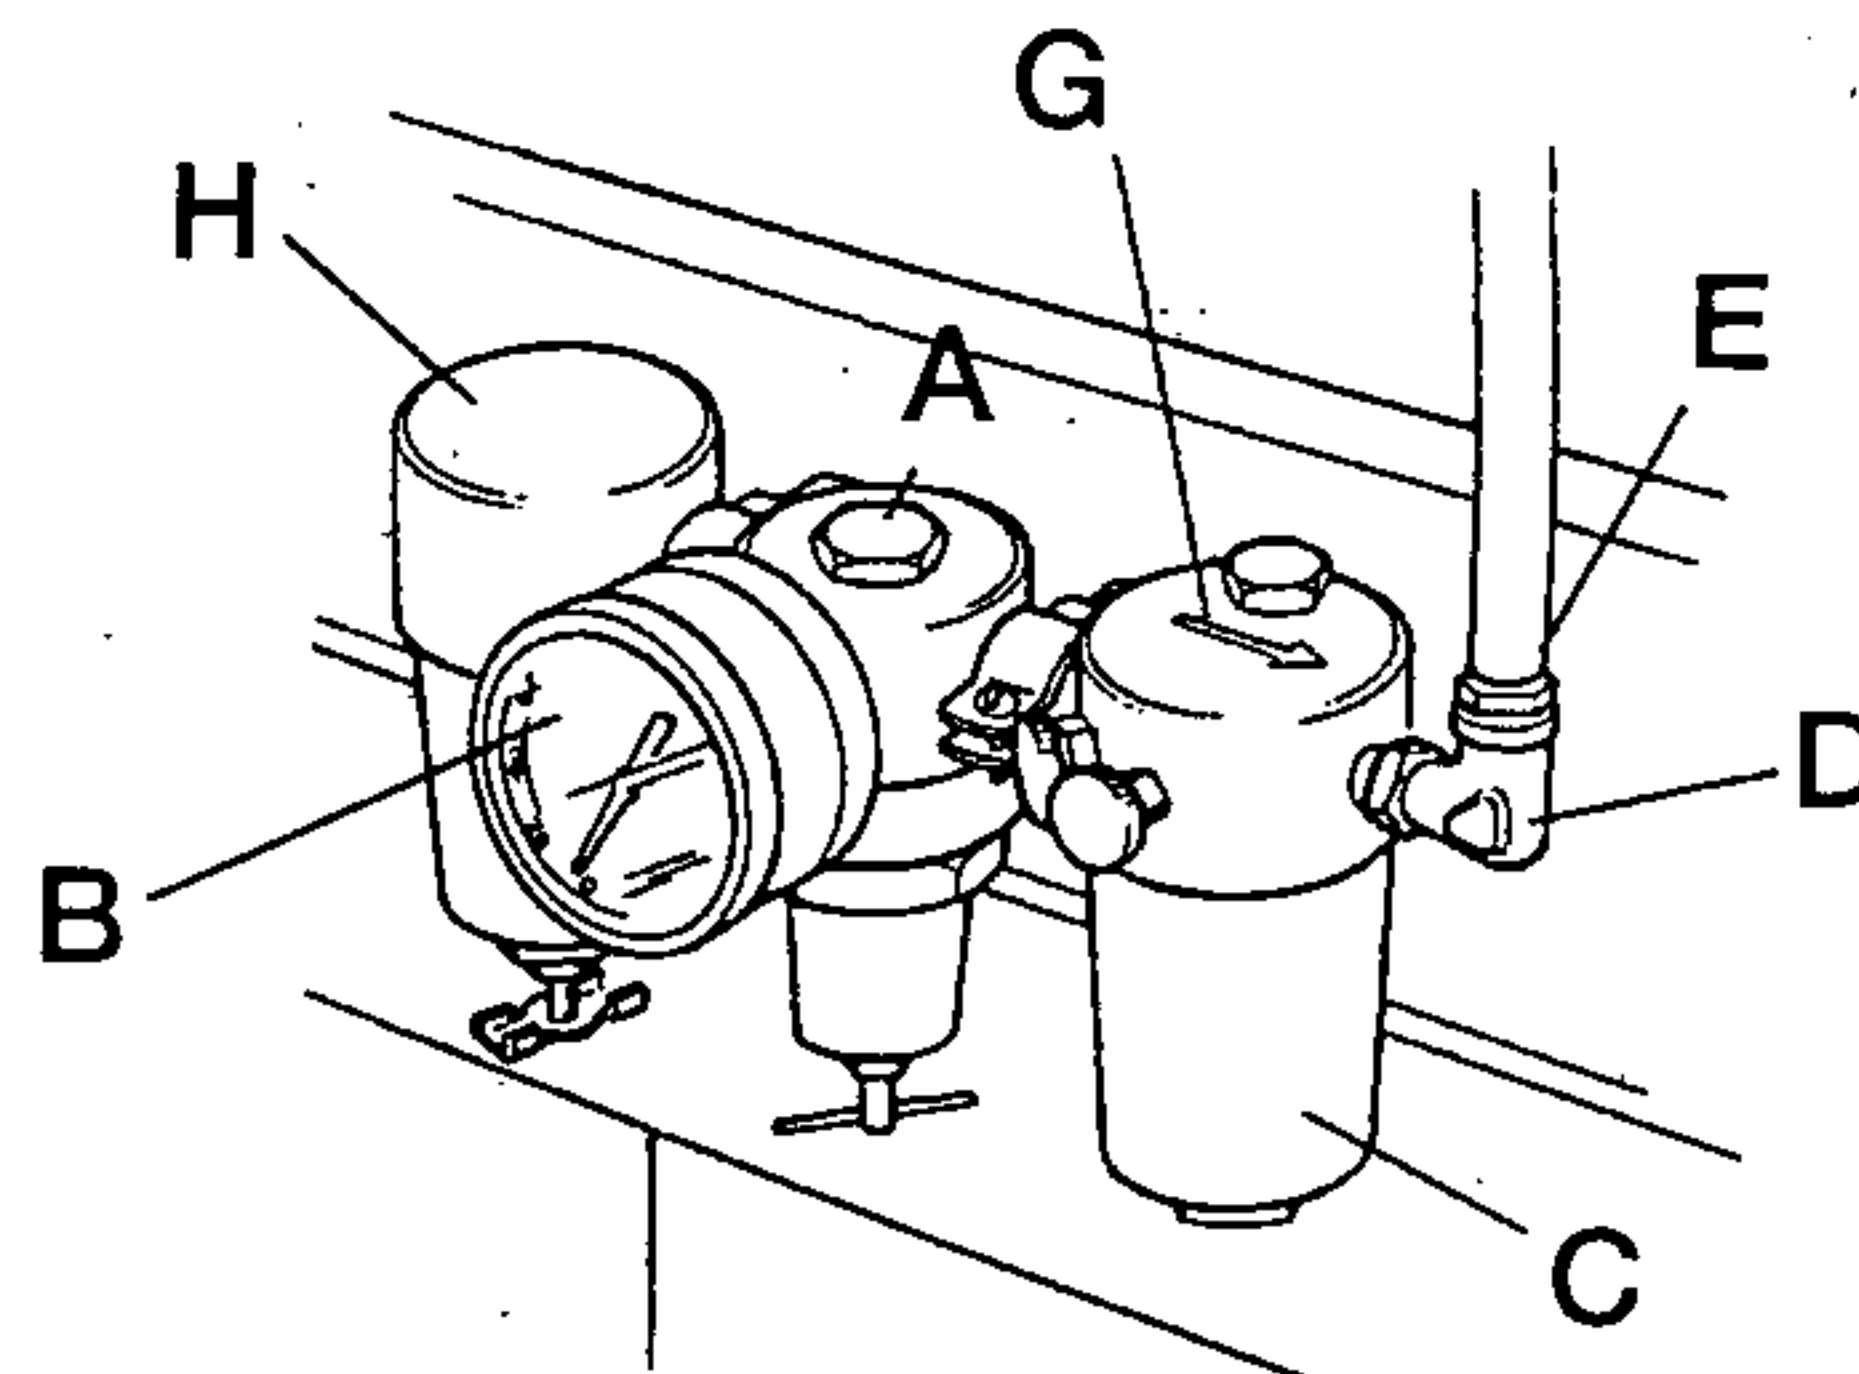
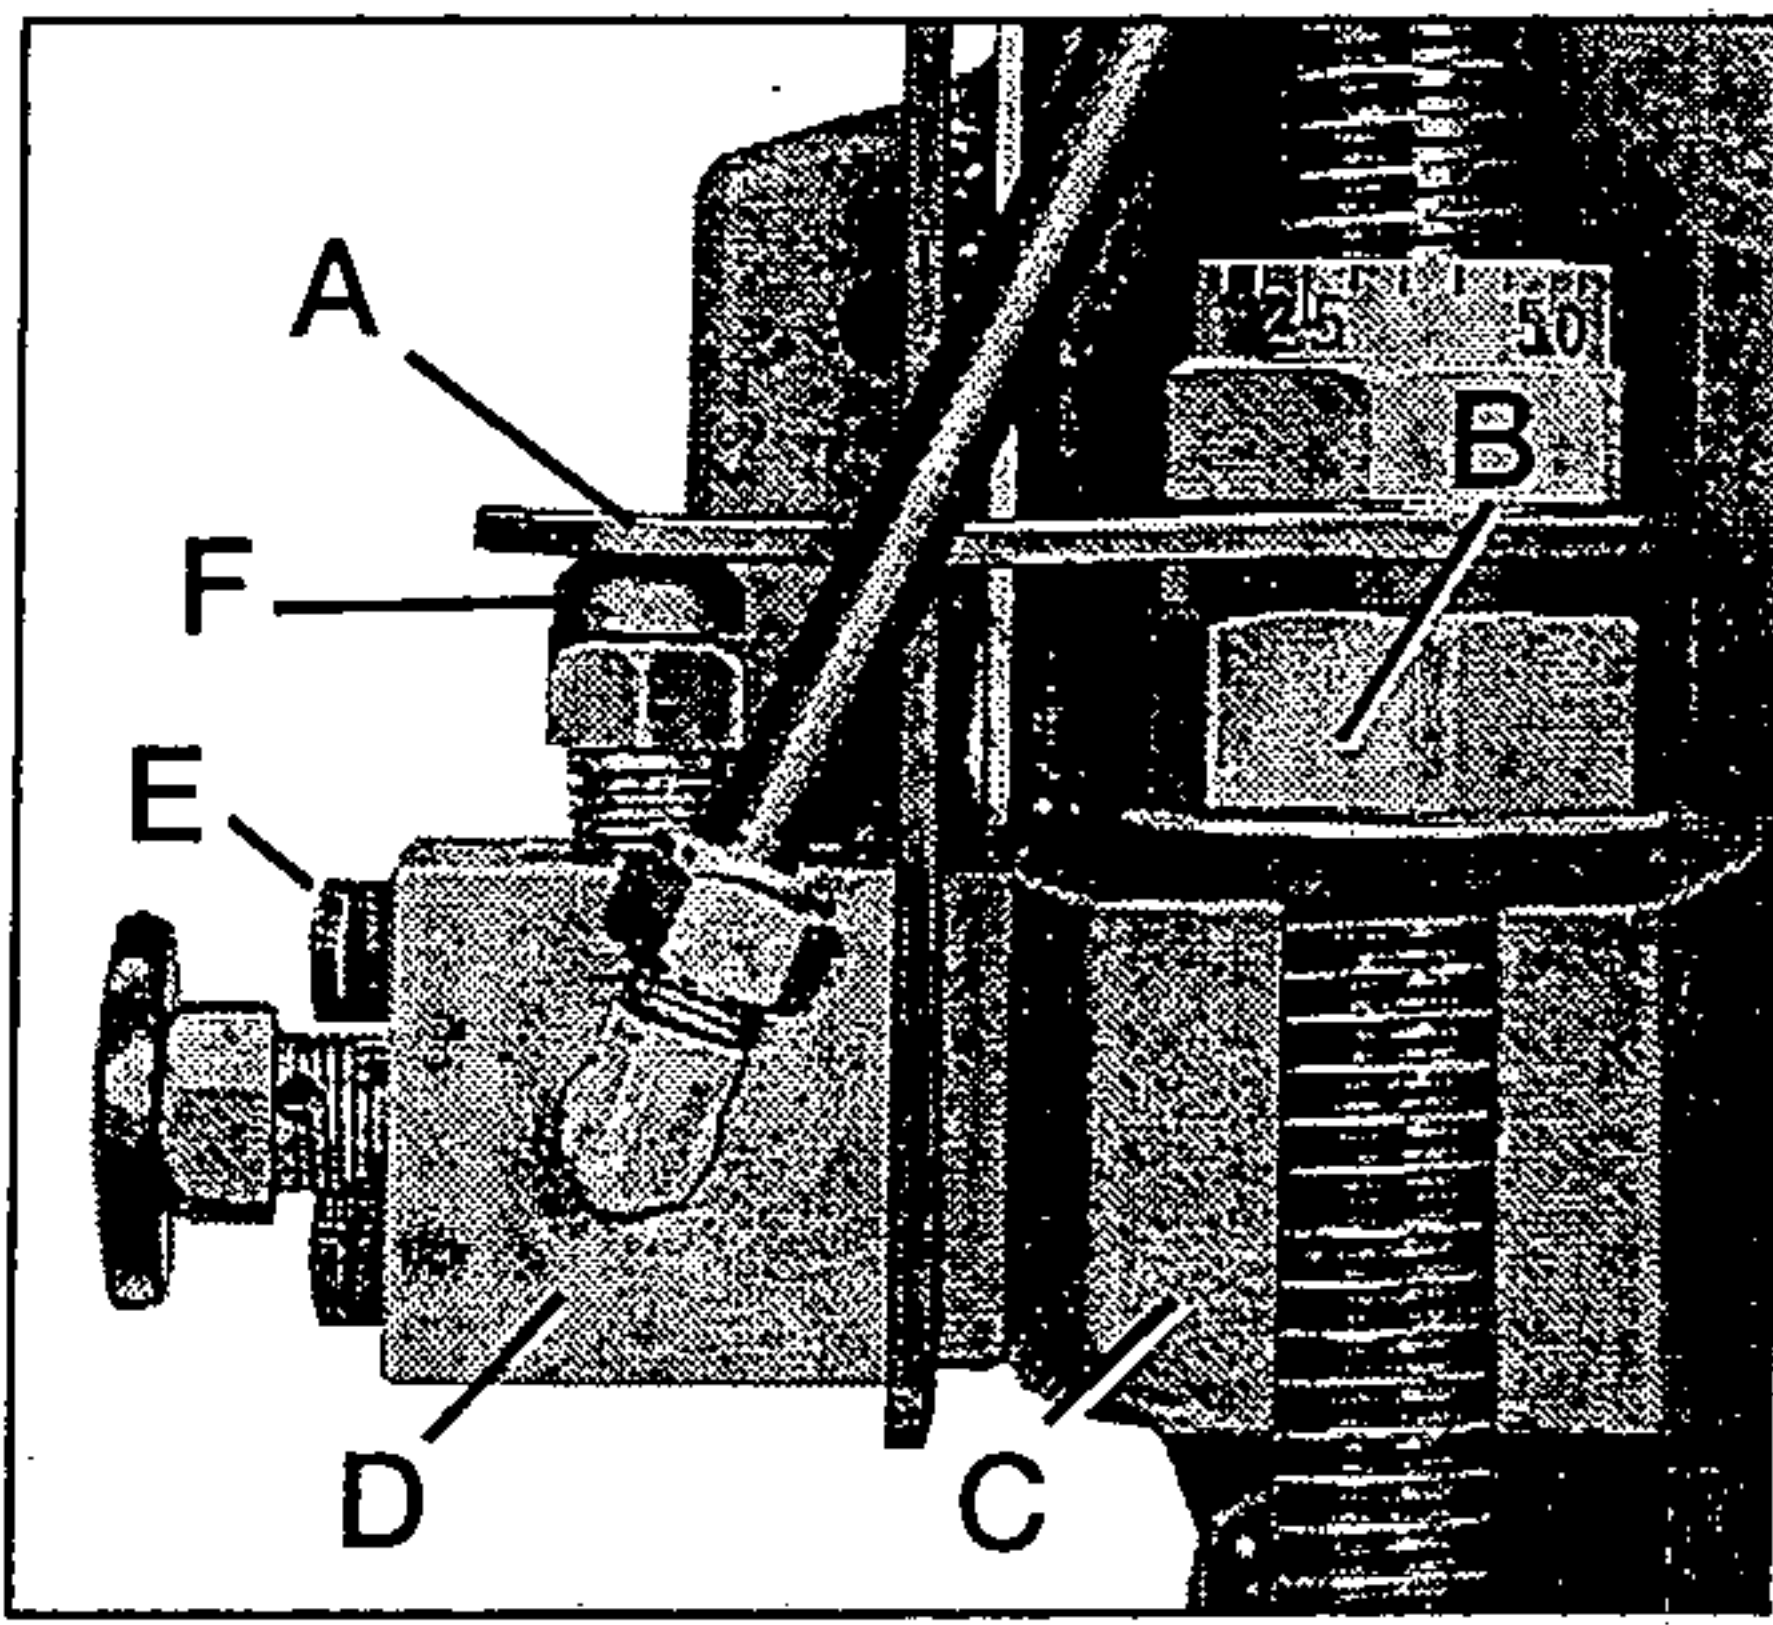
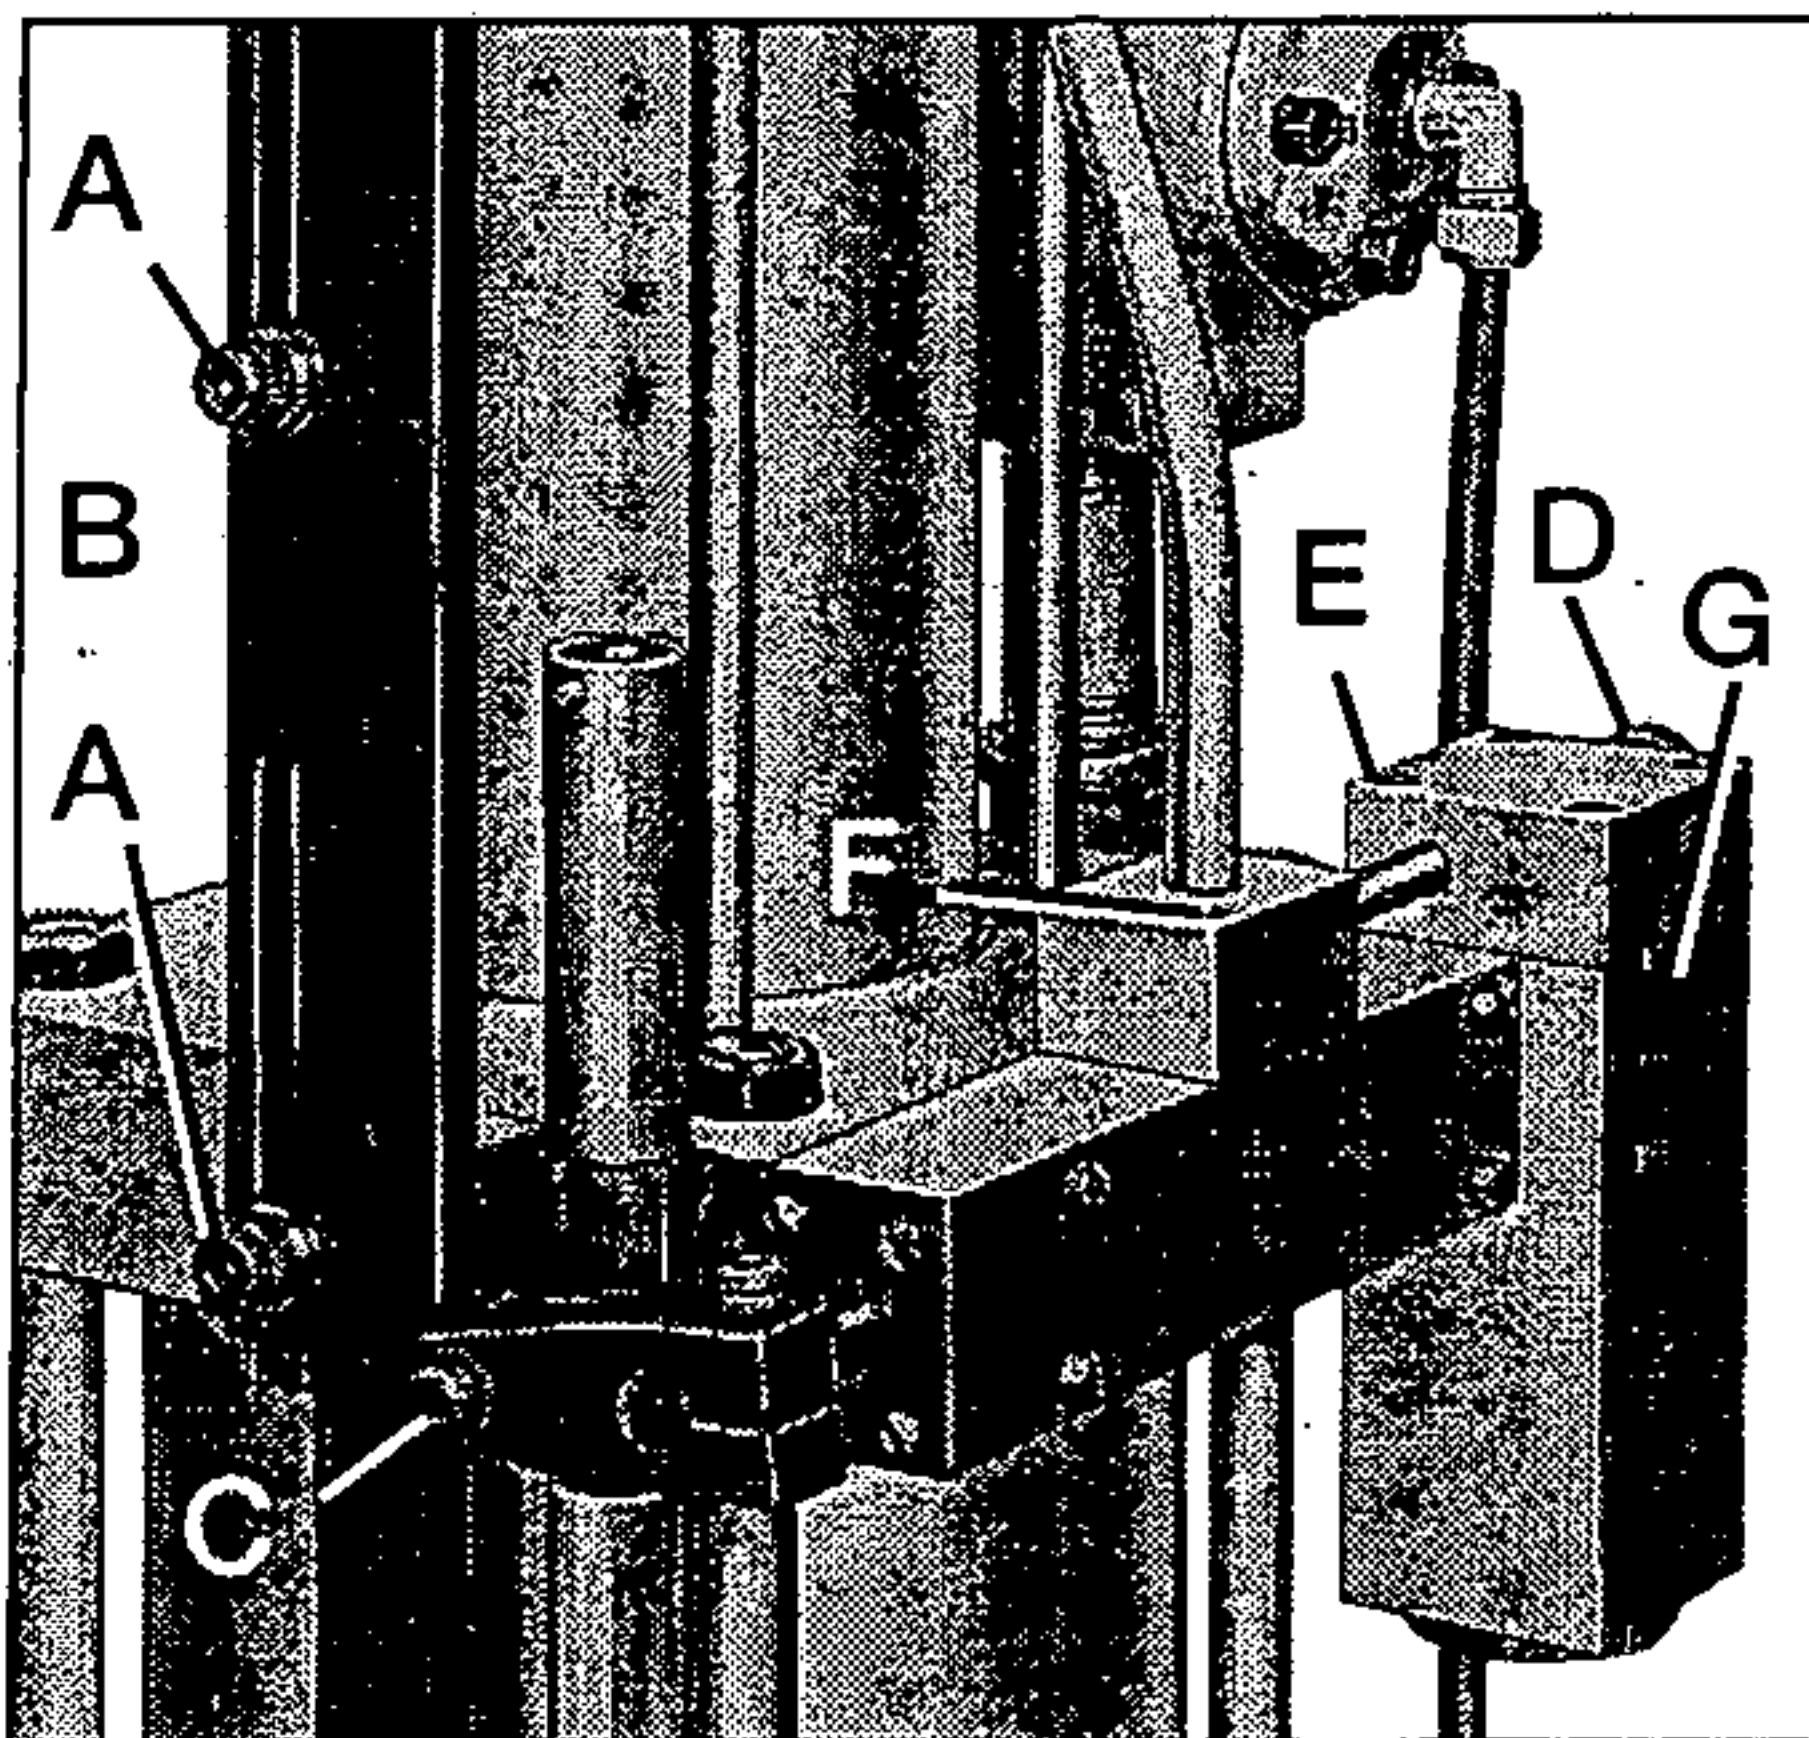

Figure 9
Figure 15
Figure 16
3. Turn feed rate knob (D, fig. 16) all the way in.
4. Remove (4) slotted head screws (E, fig. 16), loosen (2) screws (F) two or three turns. Lift cap (G) from housing to clear filter housing and remove. Withdraw filter from housing for cleaning.
6. Replace filter in housing, seat cap (G, fig. 16), secure with screw (E), tighten screws (F).
1. Move lower valve (D, fig. 15) to bottom of slot.
2. With hand feed, lower the spindle until stop nut (B) contacts positive stop (C). Lock spindle in position with quill lock.
3. Slide lower valve up until button (F) contacts kick-out arm (A).
4. Hold valve in this position and release spindle. Raise valve $\frac{1}{16}$ " and tighten lock screws (E) - this is the permanent operating position of the lower valve.
5. Remove cam plate (B, fig. 16).
7. Locate cam plate so that it touches the roller (C) and lock in place with the two screws (A). Release the spindle.
10. Turn on the air. Turn handle until gauge shows 90 lbs. pressure. Refer to figure 9.
4. Set rate of feed by turning knob (D, fig. 16).